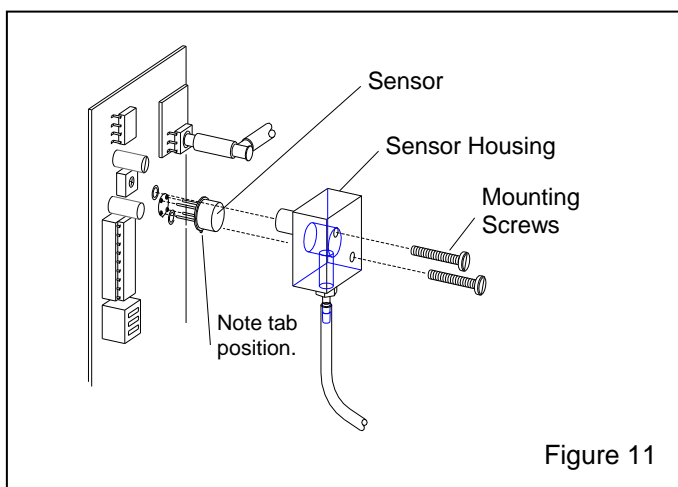

Figure 11
6.1.6 Locate the clear-plastic sensor housing, shown in Figure 11, and while supporting the circuit board, loosen the two mounting screws.
6.1.11 Handle the new sensor taking care not to distort the pins. Rotate the sensor so the tab is in the same position as was the old one (as shown in Figure 11) and plug the pins into the socket. Some pin alignment may be required, and is normal. Push firmly but carefully to seat the sensor. The sensor will stand off the circuit board by approximately 1/4" when seated.